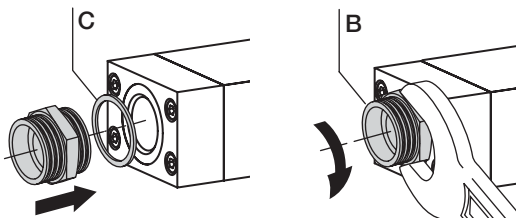

Fig. 14: Seal and compression-fitting body
- Screw the compression-fitting body [B] in the fluid connection. Tighten to a torque of 25...28 Nm, that is 18.44...20.65 lbf-ft. Refer to Fig. 14.